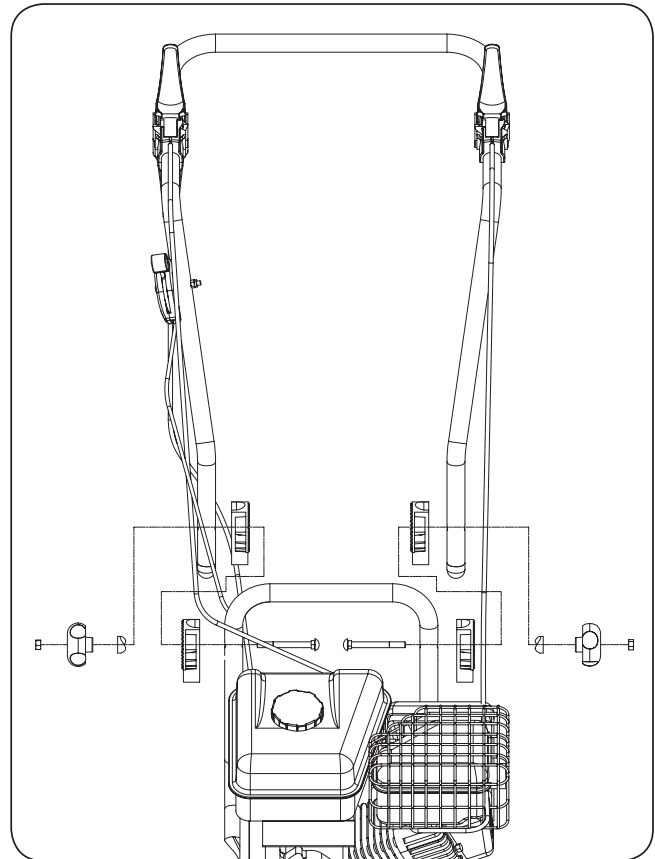

Figure 3a
1. Disassemble the handle adjustment knobs on the lower handle, and slide the upper handle onto the outside of the lower handle. (See **Figure 3a**)